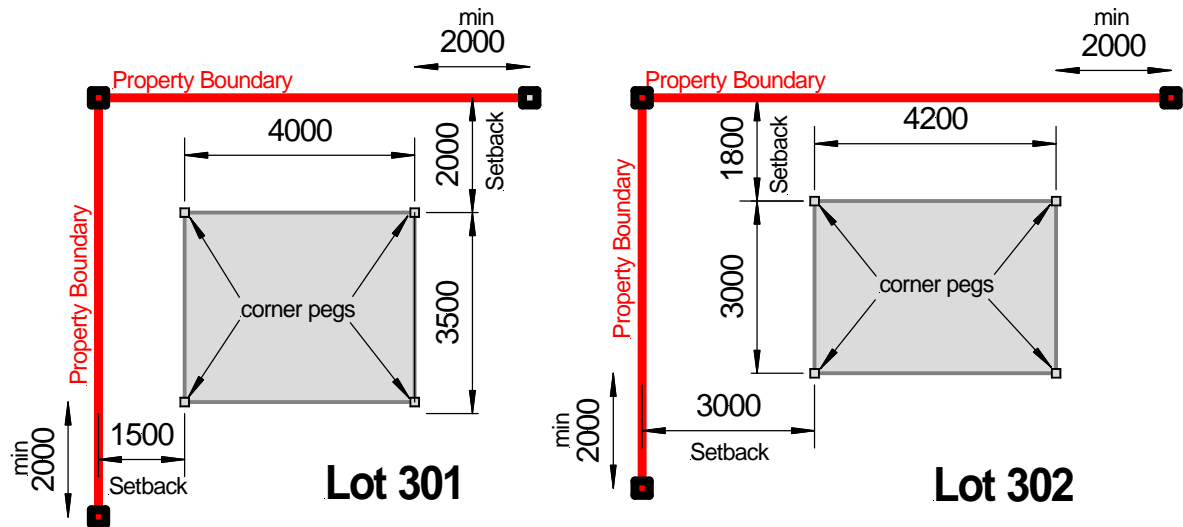

Figure 1
- Peg two (2) boundary lines at 90° (right angle) as shown in Figure 1 & 2. Each boundary line peg should pass the building at a minimum of two (2) metre.